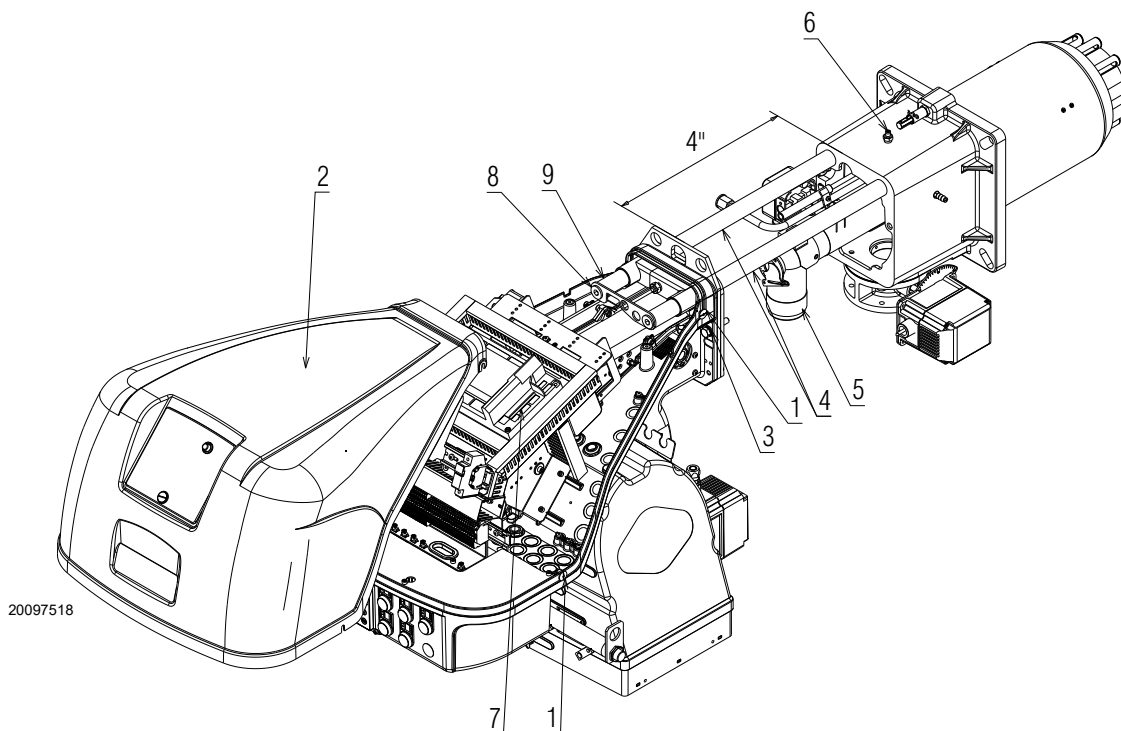

Fig. 42
- loosen the 4 screws 1)(Fig. 42) and remove the cover 2);
- remove the 2 extensions 9)(Fig. 42) and re-screw the screws 8) on the sliding bars 4);